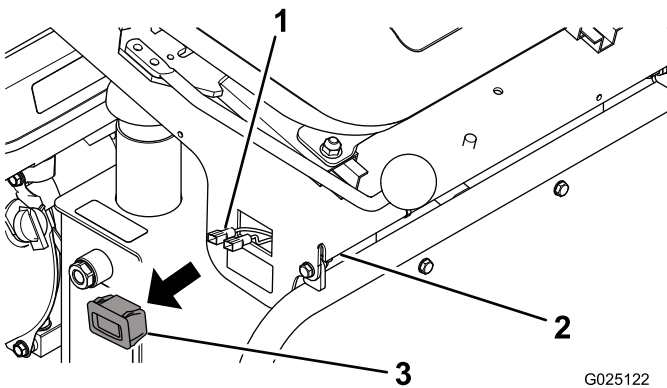

Figure 3
5. Remove the existing hour meter (Figure 3).